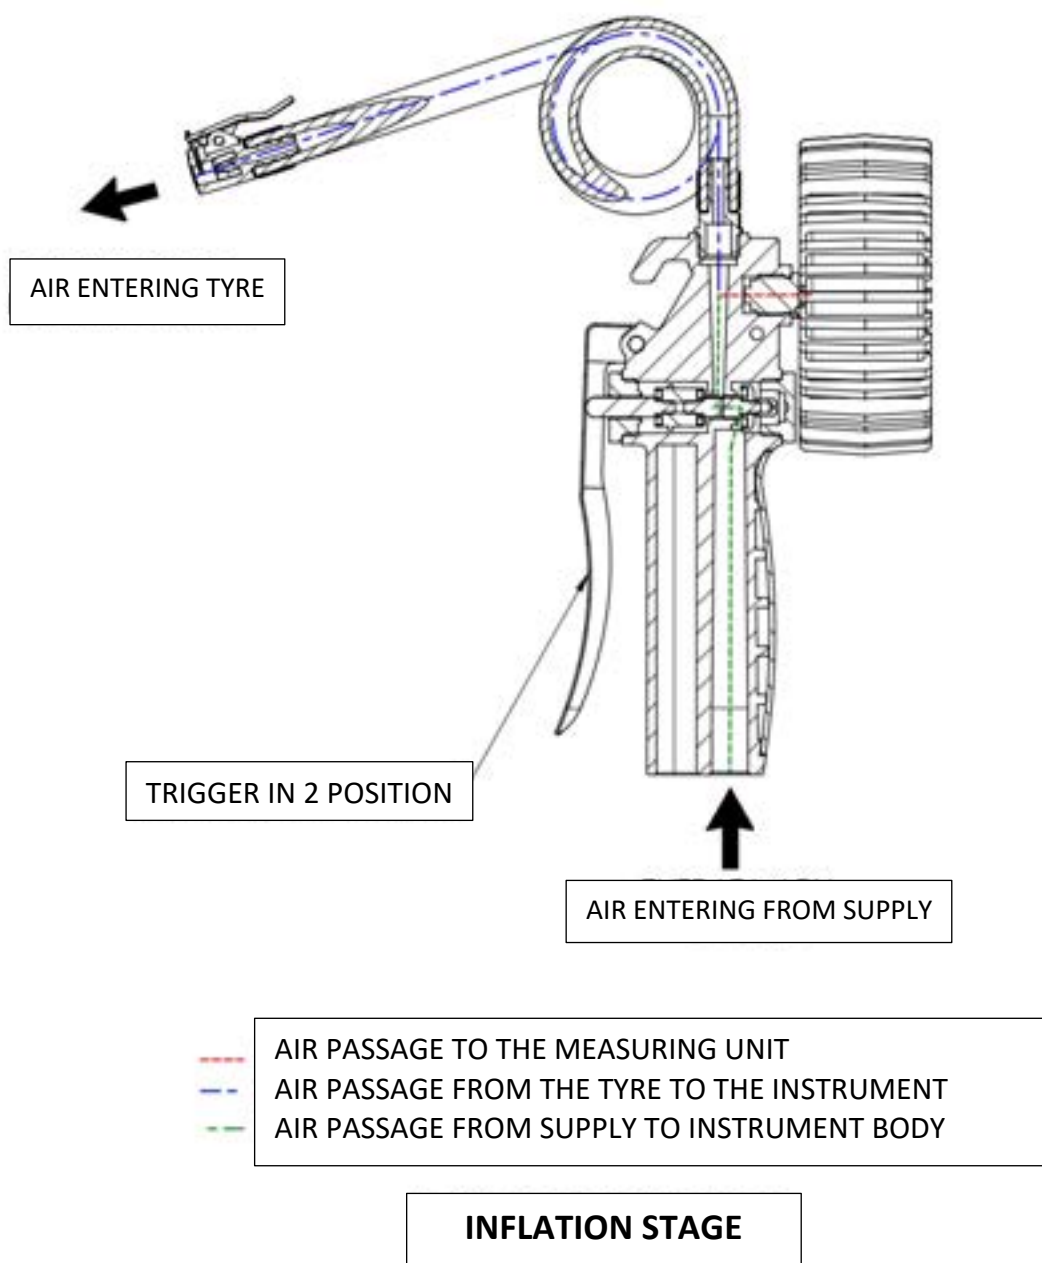

FIG. 9 – TYRE PRESSURE GAUGE “60 G/T” (vers. 63 mm)
- Tyre pressure inflation stage (Fig. 9)